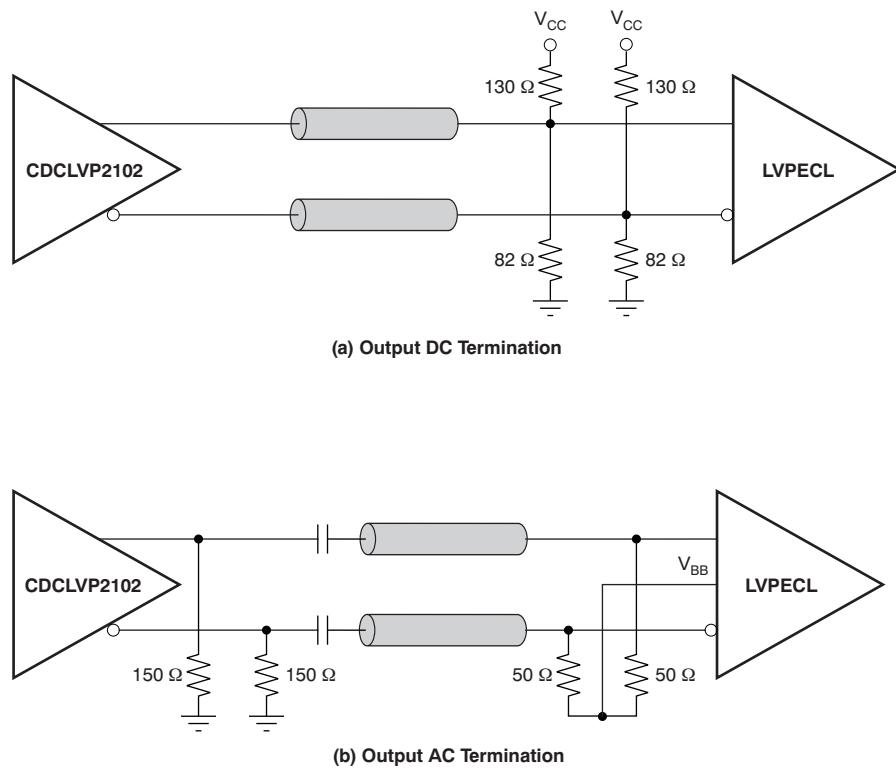

Figure 13. LVPECL Output DC and AC Termination for $V_{CC} = 3.3$ V
The CDCLVP2102 is an open emitter for LVPECL outputs. Therefore, proper biasing and termination are required to ensure correct operation of the device and to minimize signal integrity. The proper termination for LVPECL outputs is a $50\ \Omega$ to $(V_{CC} - 2)$ V, but this direct-coupled (DC) voltage is not readily available on PCB. Therefore, a Thevenin equivalent circuit is worked out for the LVPECL termination in both DC- and AC-coupled configurations. These configurations are shown in Figure 12 (a and b) for $V_{CC} = 2.5$ V and Figure 13 (a and b) for $V_{CC} = 3.3$ V, respectively. TI recommends placing all resistive components close to either the driver end or the receiver end. If the supply voltage for the driver and receiver is different, AC coupling is required.
The CDCLVP2102 is an open emitter for LVPECL outputs. Therefore, proper biasing and termination are required to ensure correct operation of the device and to minimize signal integrity. The proper termination for LVPECL outputs is a $50\ \Omega$ to $(V_{CC} - 2)$ V, but this DC voltage is not readily available on PCB. Therefore, a Thevenin equivalent circuit is worked out for the LVPECL termination in both DC- and AC-coupled configurations. These configurations are shown in Figure 12 a and b for $V_{CC} = 2.5$ V and Figure 13 a and b for $V_{CC} = 3.3$ V, respectively. TI recommends placing all resistive components close to either the driver end or the receiver end. If the supply voltage for the driver and receiver is different, AC coupling is required.